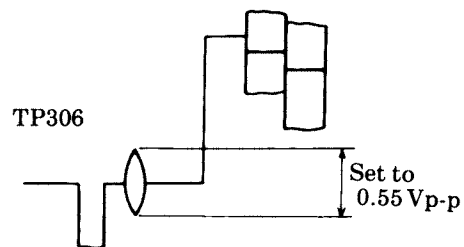

Fig. 107
4. Adjust R8231 so that the waveform becomes in Fig. 107.